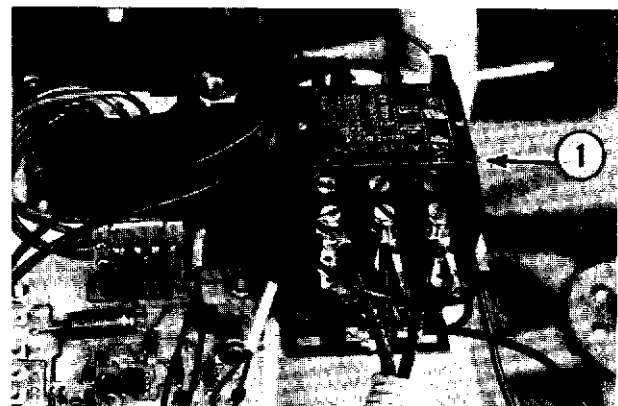

Fig. 14-3
3. Motor Contactor (1, Fig. 14-3).